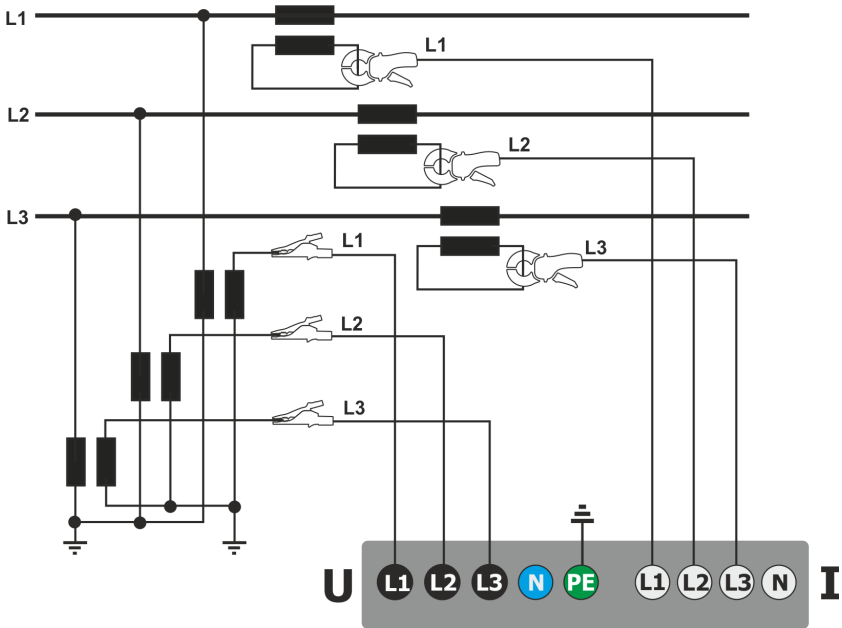

Fig. 64. Wiring diagram – indirect measurement of MV in 3-phase 3-wire system.
- in 3-phase 3-wire system (Fig. 64).